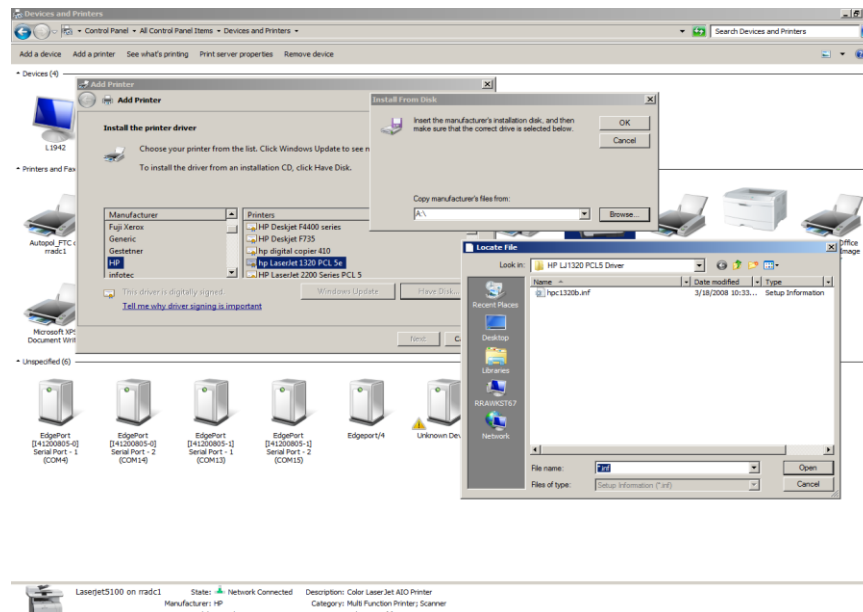

Figure 10.20 – Selecting Printer Drivers Location
- 9) Navigate to the USB storage device or network location where the drivers for the printer to be installed are located as shown in Figure 10.20.